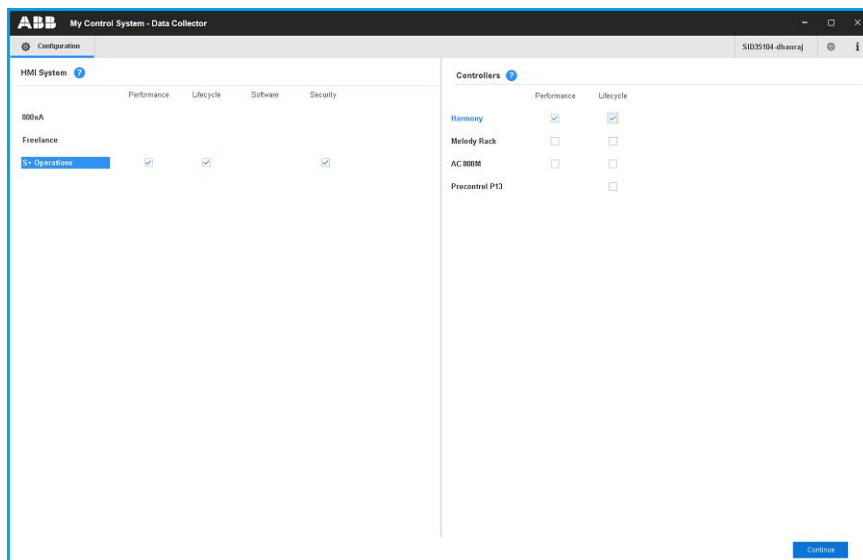

Figure 117. S+ Operations with Harmony
4. Configuration screen appears. Click S+ Operations On the left pane and select the check box for the required data category (Performance, Life Cycle, Security). If Security is selected, data collection for each node will take some extra time. Security data can be collected only for S+ Operations version 2.1 or higher. Similarly, Select Harmony on the right pane and select the check box for the required data category (Performance, Life Cycle). Click Continue. Figure 117